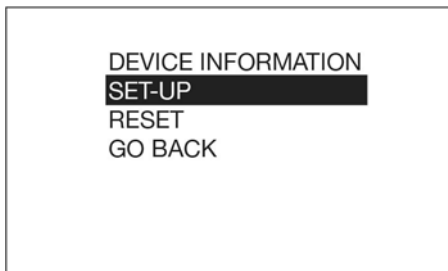

FIG. 18
5. Select the **SET-UP** option (FIG. 18).